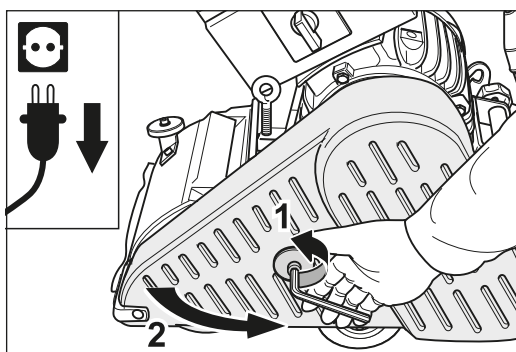

Fig. 51 Pull the power plug out of the socket and open the belt guard.
- 5 Open the belt guard (fig. 51).